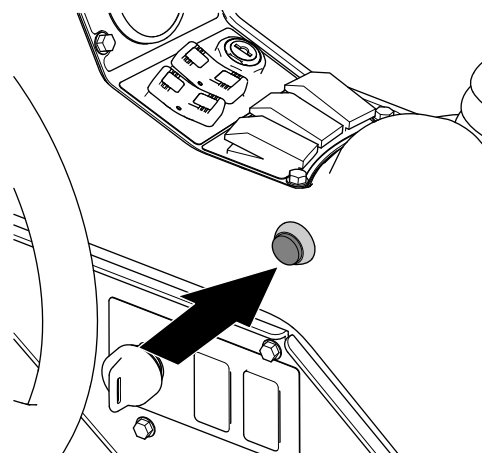

Figure 240
7. On the machine, press the master-section switch to the ON position (Figure 240).